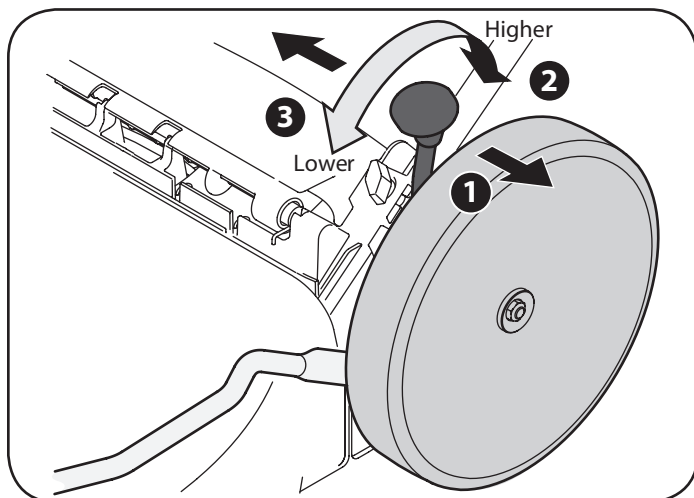

Figure 10
1. Pull the height adjustment lever outward towards wheel (unit will tend to fall when lever is moved outward). See Figure 10.
2. Move lever to desired position for a change in cutting height. See Figure 10.
4. Pull the height adjustment lever outward towards wheel (unit will tend to fall when lever is moved outward). See Figure 10.
5. Move lever to desired position for a change in cutting height. See Figure 10.